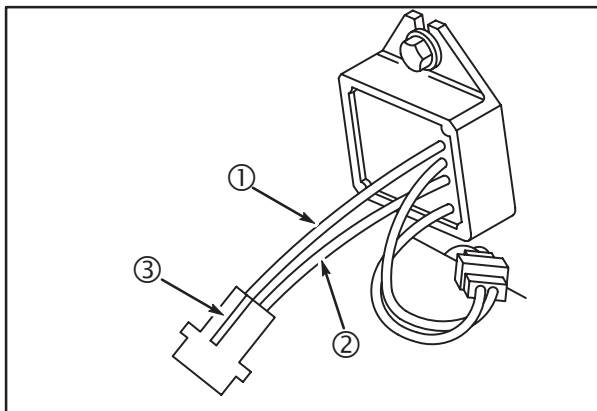

Fig. 29
Regulator-rectifier Part #493219, **Fig. 29**, is used by OEMs that have a charging indicator light instead of an ammeter. In addition to the RED DC output wire (1), the regulator-rectifier has a BLUE wire (2), to activate a charging indicator light when battery voltage is below 12 volts. The connector has a raised rib (3) on the RED wire side to indicate the output side of the connector.